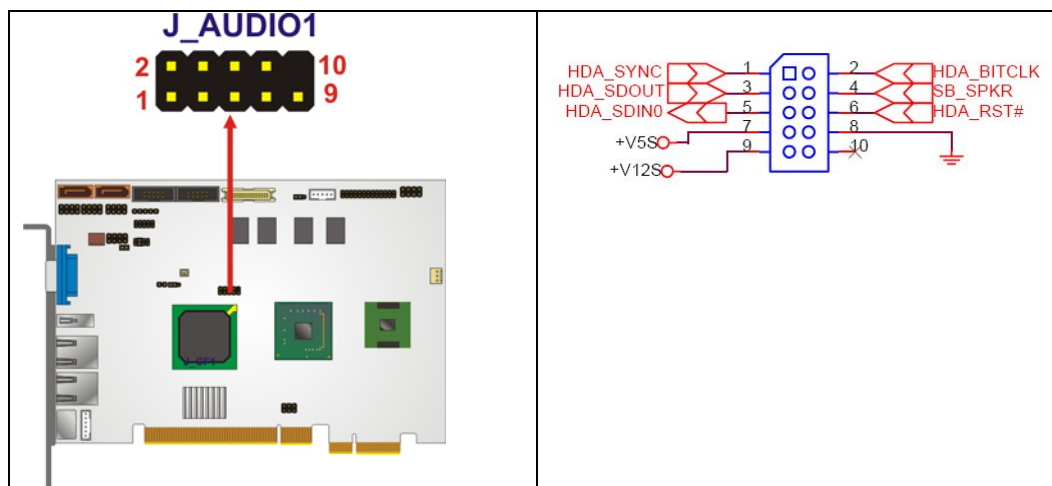

Figure 4-4: Audio Connector Location (9-pin)
- CN Location:** See **Figure 4-4**